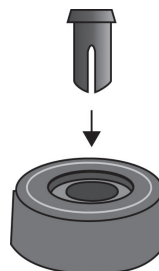

Figure 61. Inserting the Rivet Housing into the Bumper Foot
2. Inset a rivet housing into a bumper foot. Refer to Figure 61.